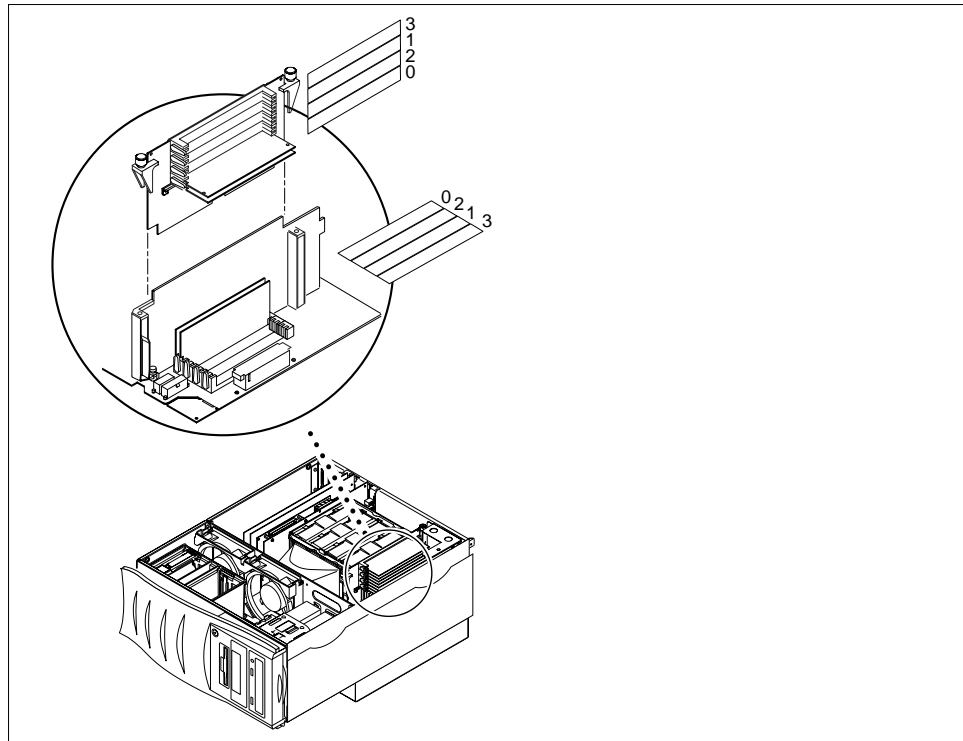

FIGURE 9-14 DIMM Bank Arrangement
- a. Using a No. 2 Phillips screwdriver, remove the three screws securing the motherboard to the chassis backpanel (FIGURE 9-14).**